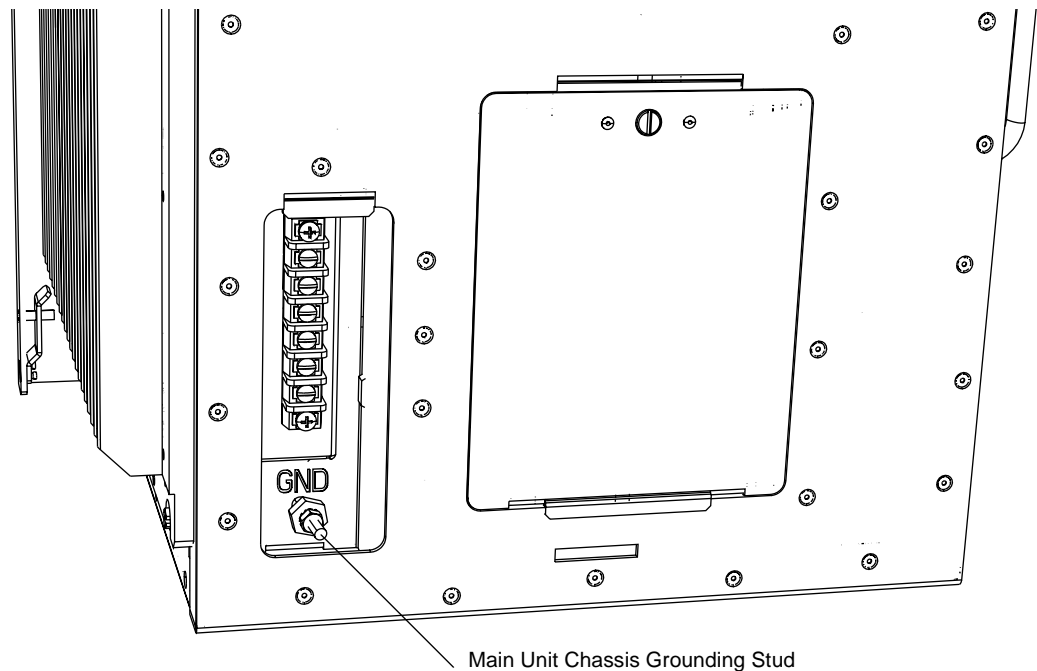

Figure 4-5 Connecting the Ground Cable to the Main Unit
- Connect the ground jumper to the main unit chassis grounding stud shown in Figure 4-5 (35–40 inch-pounds (400–450 N-cm) maximum torque recommended). For the location of the hole for the grounding wire in the bottom of the main unit chassis, see Figure 2-8 on page 2-10.